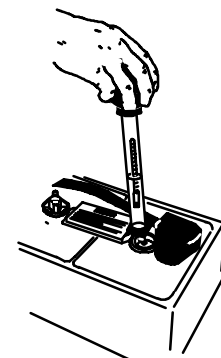

FIG. 49
1. Check the specific gravity using a hydrometer to determine the charge level and the condition of the batteries (Figure 49). If one or more of the battery cells read lower than the other battery cells (0.050 or more), the cell is damaged, shorted, or is about to fail. Check the hydrometer readings against the following chart to determine the remaining battery charge level.